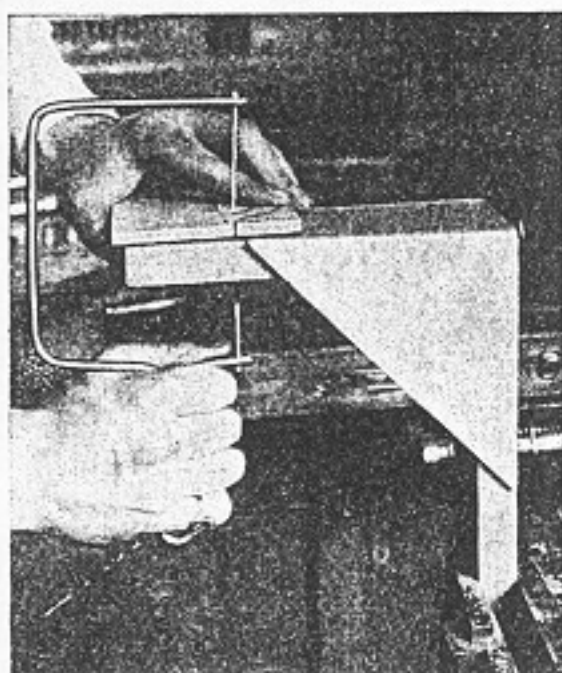

Fig. 77. Sawing with a coping saw, work held on a saw bracket.
2. When a saw bracket is used, the saw is held in a vertical position with the teeth pointing down toward the handle (Fig. 77). Drawing the saw blade